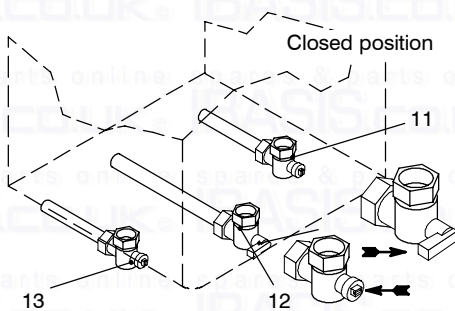

Fig. 9.3
- 1 Check that the gas cock (12 in Fig. 9.3) fitted under the boiler is turned off and the appliance is switched off at the mains isolating spur.
- 15 Open the gas cock (12 in Fig. 9.3)